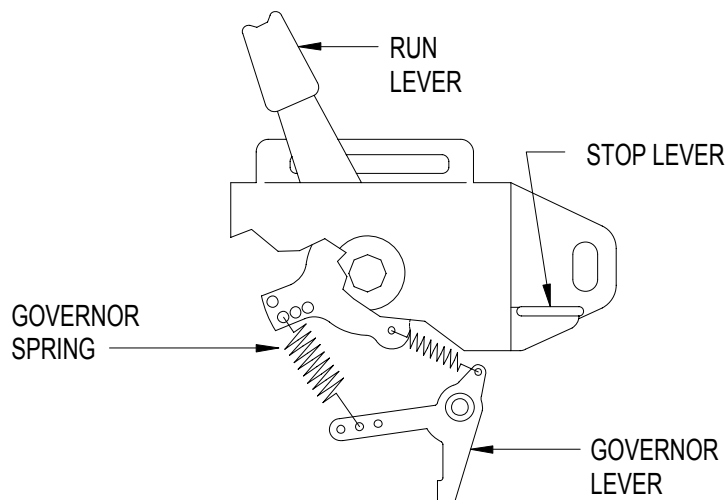

Figure 5-12. Governor Linkage Setting
(1) Check fuel injection volume limitation setting:
- (a) Ensure that governor linkage and spring position is properly set (Figure 5-12).